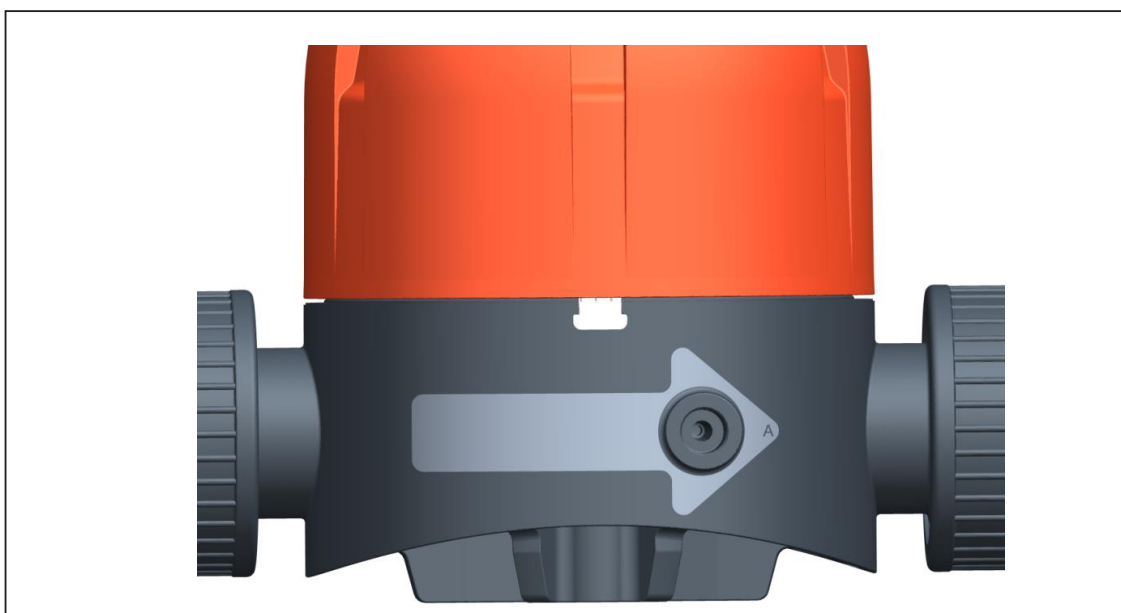

Fig. 1
- ▶ Observe the flow direction, see arrow on body (Fig. 1)